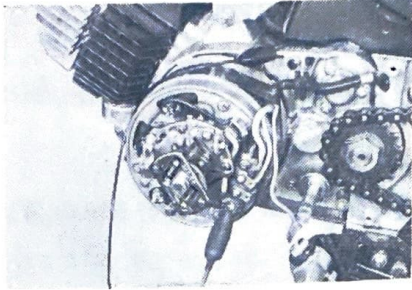

Fig. 5-4-15
- c) Connect the positive (+) tester lead to the terminal I, and ground the tester's negative lead to the frame. (Fig. 5-4-15)